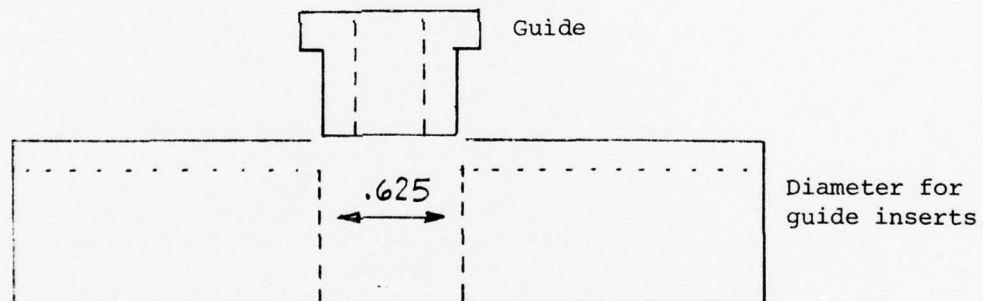

FIGURE 15 CATHODE LEAD GUIDE
- (1) Cut off extended header graphite so that W rod can be inserted permanently.
- (2) The pilot hole in the header is .343" in diameter. Using a .3725 reamer, manually start a hole about 1/16" deep. This depression in the wall will act as a seat for the reamer when the fixture is attached.
- (3) Clamp the fixture over the cathode with the reamer placed through the guide, seated in the 1/16" depression. (See Figure 15)
- (4) Visually adjust the fixture so that the reamer is perpendicular with both planes of the cathode. Tighten the fixture so that it will not move during reaming.